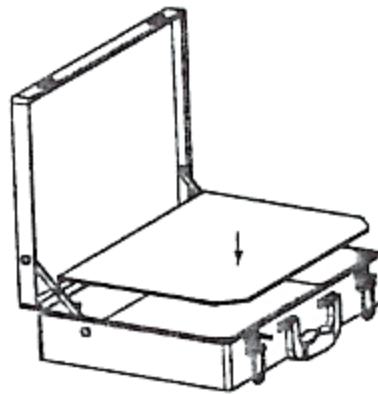

Fig. 2
- c) Lay the Diffuser Plate on the Support Pins with the metal strip facing up in the front (Fig. 2).